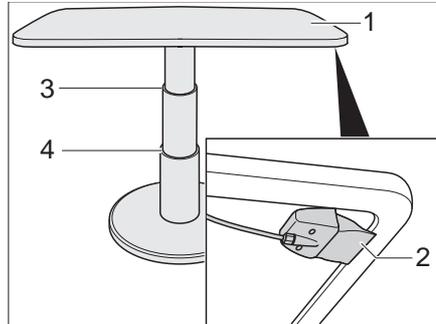

Fig. 59 Lift-off table for the round seating group
- Pull the catch lever (Fig. 59,2) upwards and hold.
- Press the table-top (Fig. 59,1) in the middle downwards to the desired stop limit (Fig. 59,3 or 4).